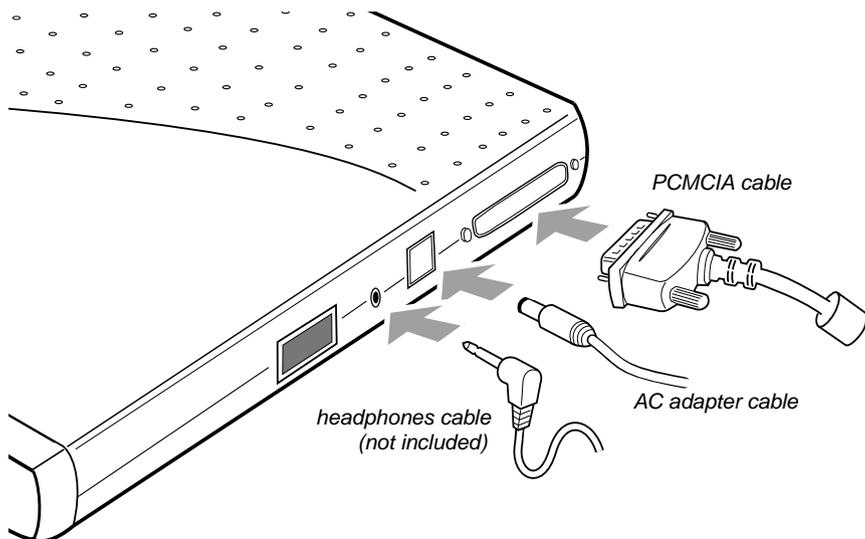

Figure 23. Connecting Cables
1. **Connect the PCMCIA cable plug to the interface connector on the side panel of the PortaCD-RW (Figure 23).**
3. **Connect the AC adapter cable to the AC power input on the PortaCD-RW drive (Figure 23).**